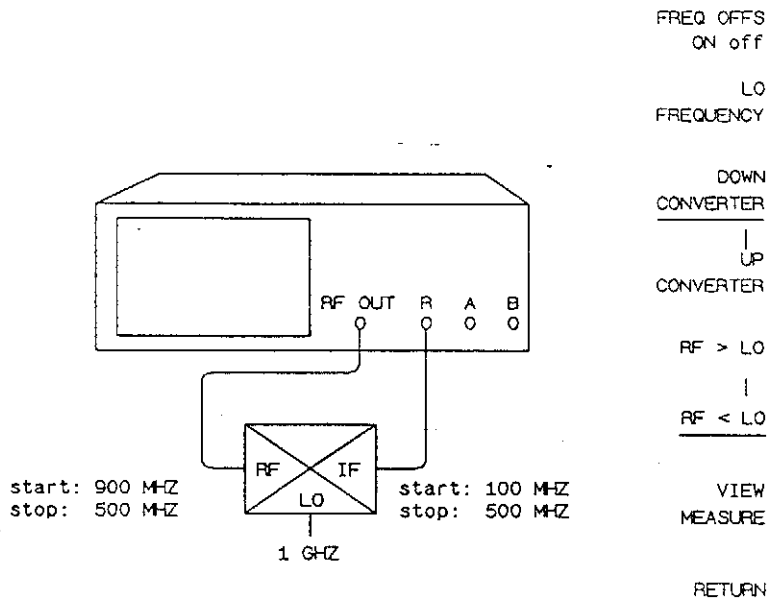
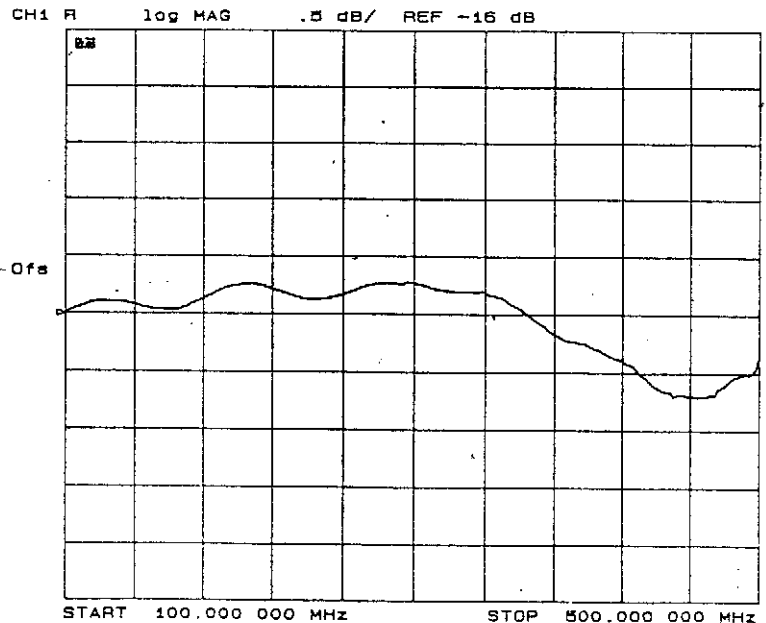

Figure 10. Measurement set-up diagram for a swept IF conversion loss measurement.
Figure 11. Plot of swept IF conversion loss.
Notice, in this high-side LO, down conversion configuration, the HP 8753's source is actually sweeping backwards, [900 MHz-500 MHz]. The measurements set-up diagram is shown in figure 10.
9. View the conversion loss, shown in figure 11.
In this measurement, input power is set while output power is measured. By selecting attenuation values and power levels such that the small signal input to the mixer is 0 dBm, figure 10 shows the absolute loss through the mixer, attenuator and filter versus mixer output frequency. Mixer conversion loss can be calculated by subtracting the loss of the attenuator and filter from the overall loss shown in figure 11.